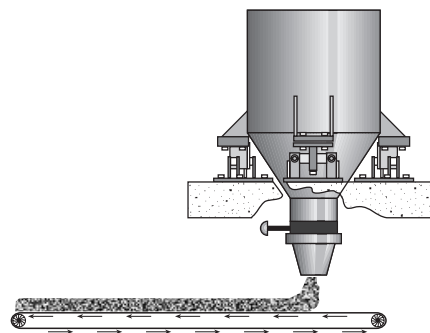

Figure 1-10
- F.** Figure 1-10 illustrates a loss in weight system. This is used where a process needs a batch of material (not more than the capacity of the weigh hopper), but that material needs to be fed to the process at a controlled rate.